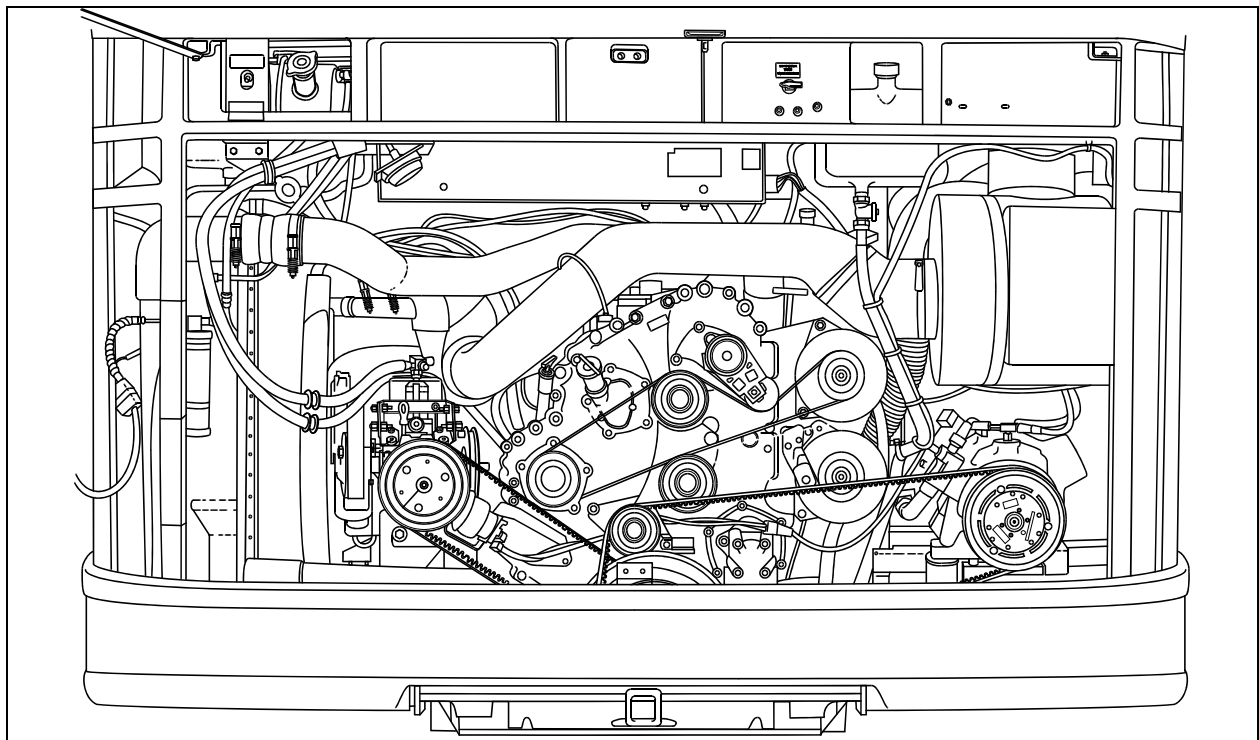

FIGURE 31: LIMP-HOME DRIVE BELT ON TOP ALTERNATOR
5. Release the belt tensioner. Refer to figure 31.